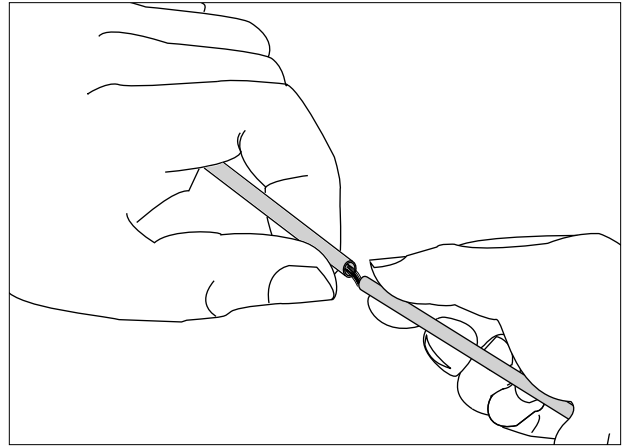

Figure 16 — Exposing the fibers
Step 3: Gently flex the cable until jacket snaps and remove the jacket to expose the inner fibers and yarn (Figure 16).